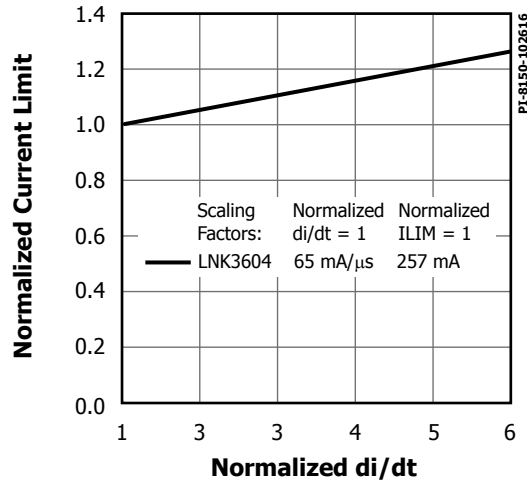

Figure 22. Default Current Limit vs.  $di/dt$ .
- For current limit at other di/dt values, refer to Figures 22, 23, 32 and 33.